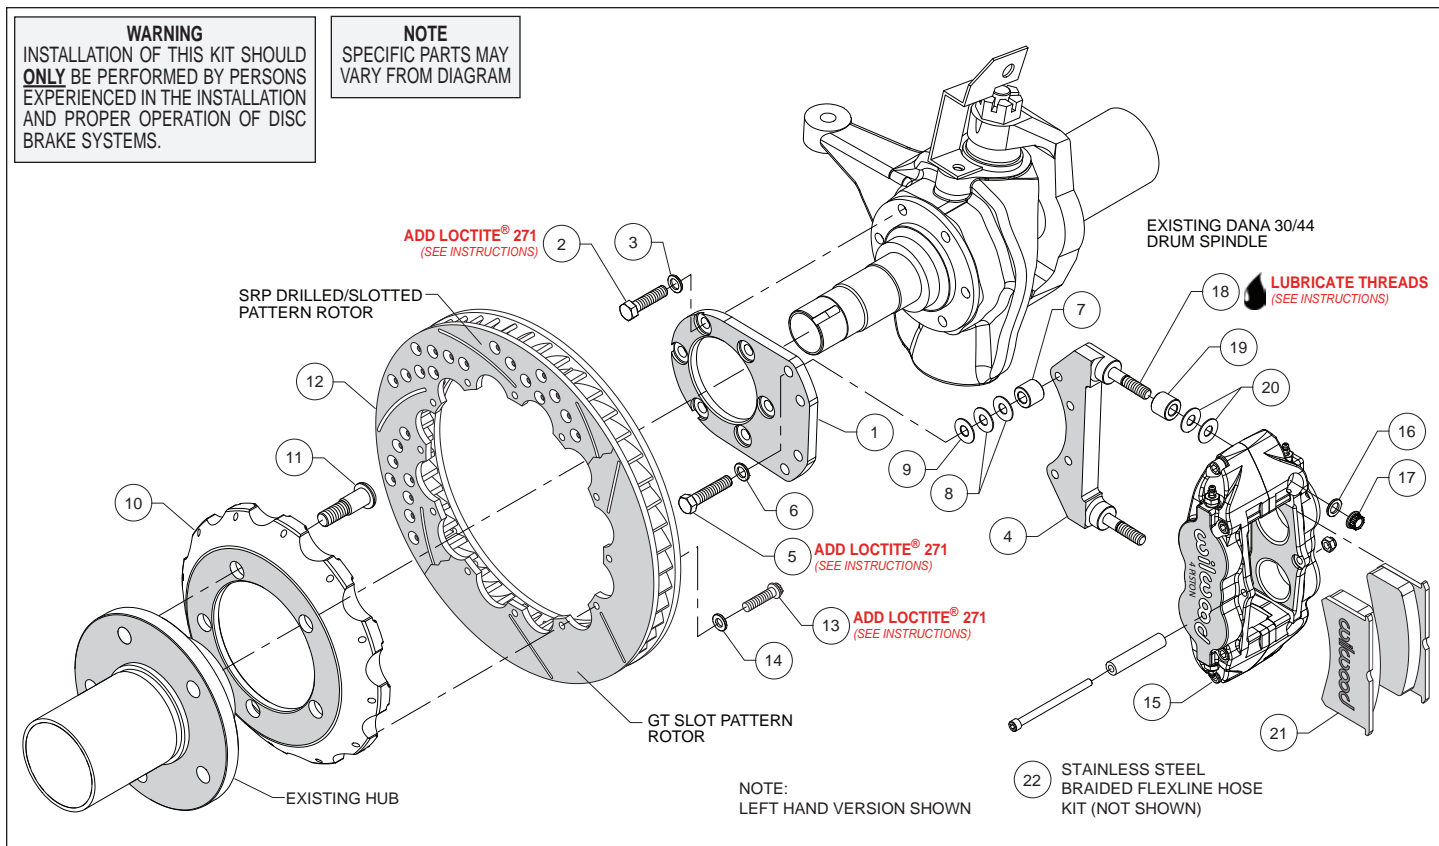
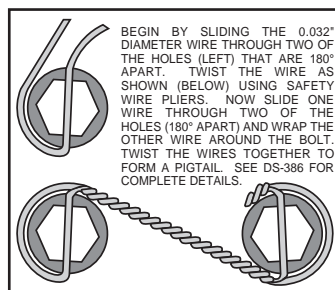

Figure 1. Typical Installation Configuration
Figure 3. Safety Wire Diagram
Assembly Instructions (numbers in parenthesis refer to the parts list and Figure 1 on the preceding pages):
- Orient the flat mount bracket (1) as shown in Figure 1 and Photo 1, and install using bolts (2), and washers (3). Ensure that the counterbored holes in the bracket are facing outboard, Figure 1. Temporarily tighten the mounting bolts. **NOTE:** *The bracket must fit squarely against the mount bosses on the upright.* Inspect for interference from casting irregularities, machining ridges, burrs, etc. Remove bolts one at a time, apply red *Loctite*[®] 271 to the threads and torque to 40 ft-lb.
- The caliper mount bracket (4) should initially be installed with clean, dry threads on the mounting bolts. Orient the bracket as shown in Figure 1 and Photo 2, and install using mount bolts (5) and washers (6). Initially place two .035" thick shims (8) and spacer (7) on each bolt between the flat and caliper brackets, Figure 1. Temporarily tighten the mounting bolts. Later, after the caliper alignment has been checked, the mount bolts will be secured using red *Loctite*[®] 271.
- Orient the hat (10) and the OEM hub as shown in Figure 1 and Photo 3. **NOTE:** *The hat must fit flush against the axle hub or excessive rotor run out may result.* Install the wheel studs (11) thru the holes in the hat and press into the existing hub. **NOTE:** *We recommend this procedure be performed by a qualified machinist.*
- Orient the rotor (12) and the hat/hub assembly as shown in Figure 1 and Photo 4. Attach rotor to hat using bolts (13) and washers (14). Using an alternating sequence, apply red *Loctite*[®] 271 to the threads, and torque to 155 **in-lbs**. For an added measure of security, the bolts may be safety wired using standard 0.032 inch diameter stainless steel safety wire as shown in Figure 3. Please refer to Wilwood's data sheet DS-386 (available at www.wilwood.com/Pdf/DataSheets/ds386.pdf) for complete safety wire installation instructions.
- Lubricate the caliper mounting studs (18) with lightweight oil. Initially place two .035" thick shims (20) and spacer (19) on each stud as shown in Figure 1 and Photo 5. Mount the caliper (15) onto the bracket (4) using lock nuts (17) and washers (16), Figure 1. Temporarily tighten the lock nuts and view the rotor through the top opening of the caliper. The rotor should be centered in the caliper, Photo 6. If not, adjust by adding or subtracting shims (8 and/or 9) between the spindle bracket and caliper bracket. Always use the same amount of shims on each of the four mounting bolts. Once the caliper alignment is correct, remove the bracket to bracket mounting bolts (5) one at a time, apply red *Loctite*® 271 to the threads, and torque to 35 ft-lb.